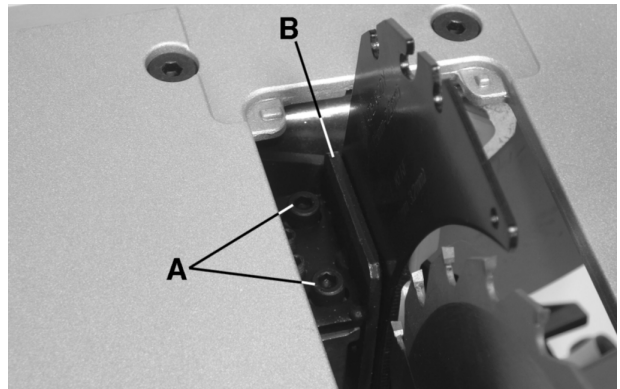

Fig. 9
2. If an adjustment is necessary, loosen 2 cap screws (A, Fig 9) that hold the mounting bracket (B, Fig 9). Adjust the position of the riving knife to the right or left until it is perfectly aligned with the blade. Retighten cap screws.